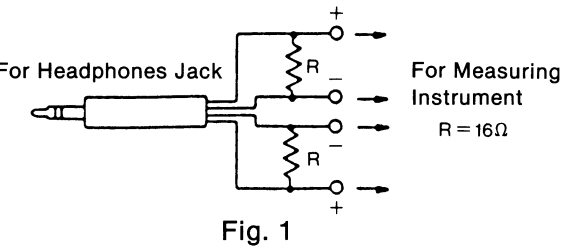

Fig. 1
- Set the condition as shown in Fig. 1 in accordance with Ref. Nos. 1 and 2 on Page 5 of the Disassembly Instructions. (DO NOT remove the solders on the head FPC.)
- Short-circuit across C51 (between IC4 ③ pin and ground.)
- Short-circuit the short land ④.
- Connect the rechargeable battery (+) terminal and the rechargeable battery (-) terminal foil to the power source (1.5V) with a lead wire. (See Fig. 1)